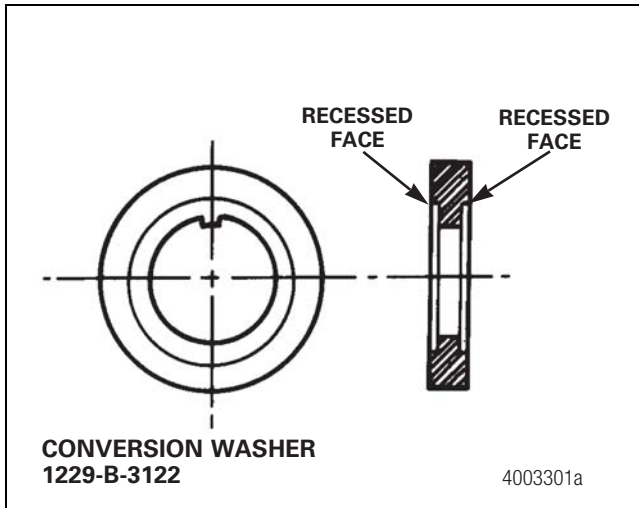

Figure 11.6
4. On TP axle model where the innermost component is a washer, replace with part number 1229-B-3122 and the adjusting nut with part number 1227-W-517. Figure 11.6.